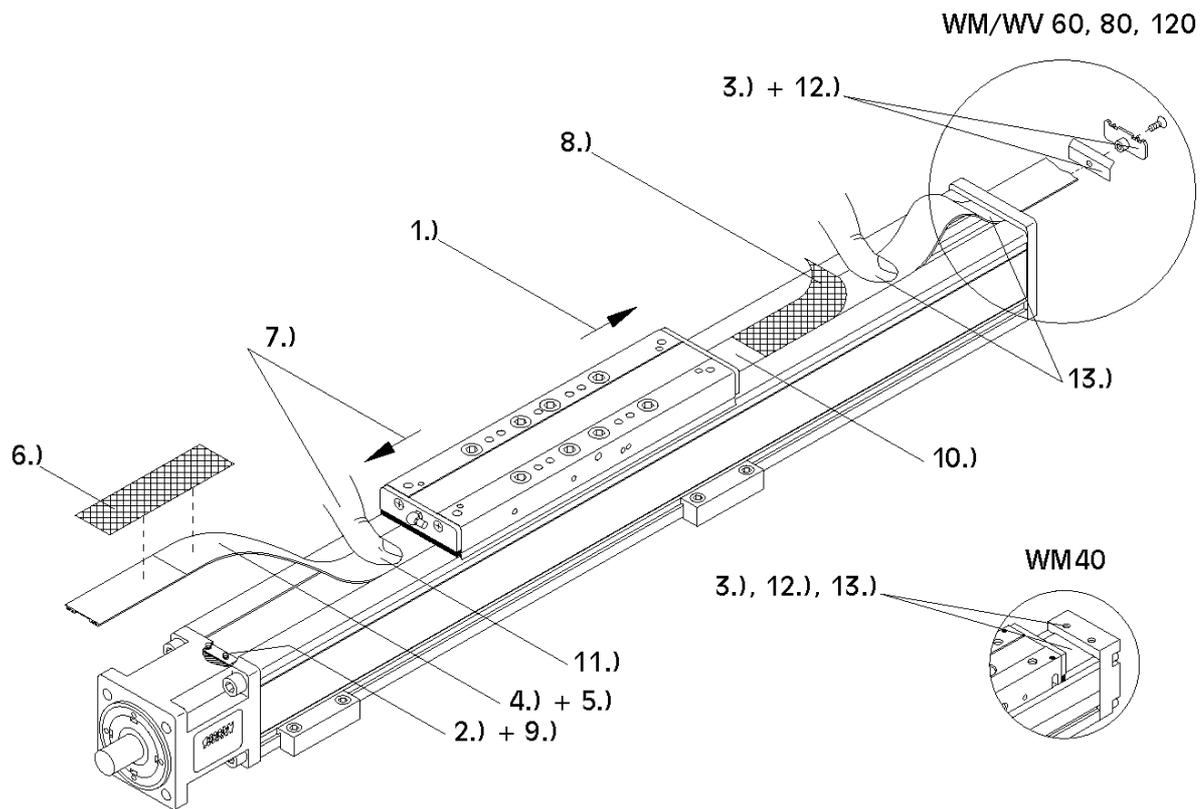

Fig. 15
1. Fig. 15: Move the sliding carriage to the backward end position (movable bearing side).